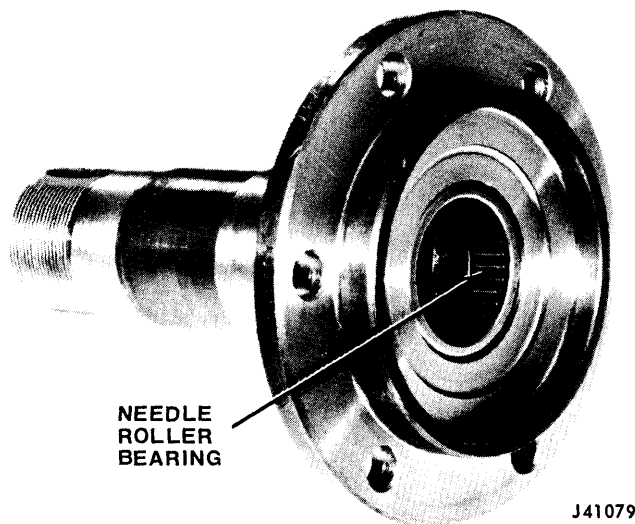

Fig. 10-14 Spindle Bearing
**NOTE:** Front axle spindles are equipped with a needle roller bearing located at the rear spindle flange (fig. 10-14).
- (1) Place spindle in vise. Use caution and protect all machined surfaces on spindle.
- (2) Use an internal bearing puller and remove needle bearing.
- (3) Clean area of dirt and foreign matter.
- (4) Use an internal bearing installer and install new bearing.
- (5) Pack needle bearing with grease.